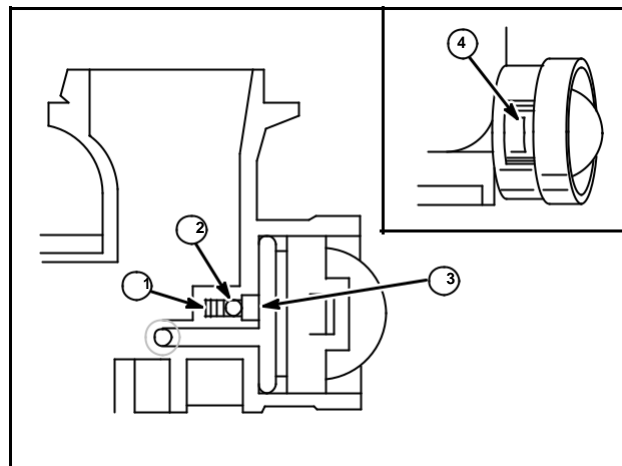

Fig. 4
3. Pry retainer out and remove primer bulb from primer seat groove (3).
4. Remove primer seat using a crochet hook or other type of hook. Ball (2) and spring (1) will fall out, Fig. 4.
2. Press primer seat into bore with groove on seat facing out, Fig. 4.